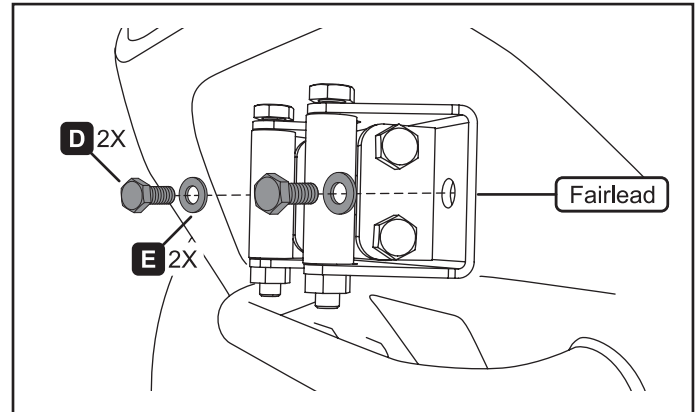

Figure 8.
7. Install your fairlead to the fairlead mount (B) using bolts (D), washers (E) and nuts (G) as shown in figures 8 and 9.